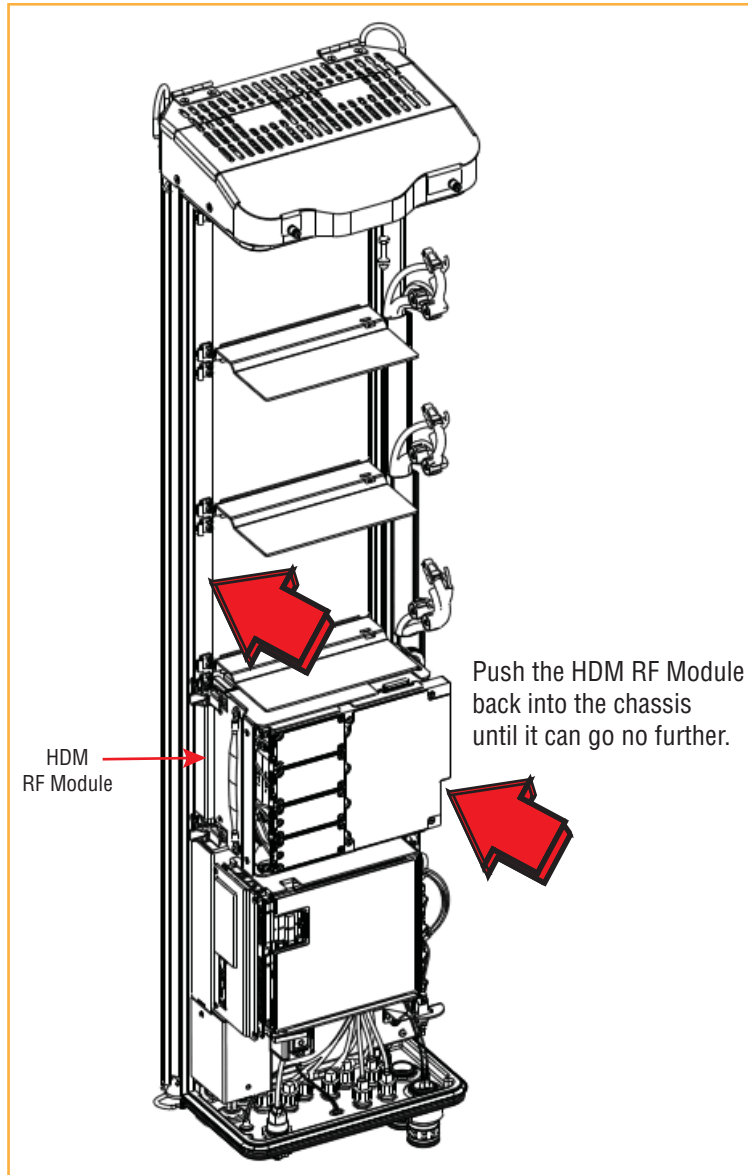

Figure 16. Seating an HDM RF Module
- For HDM RF modules, see Figure 16 on page 31.